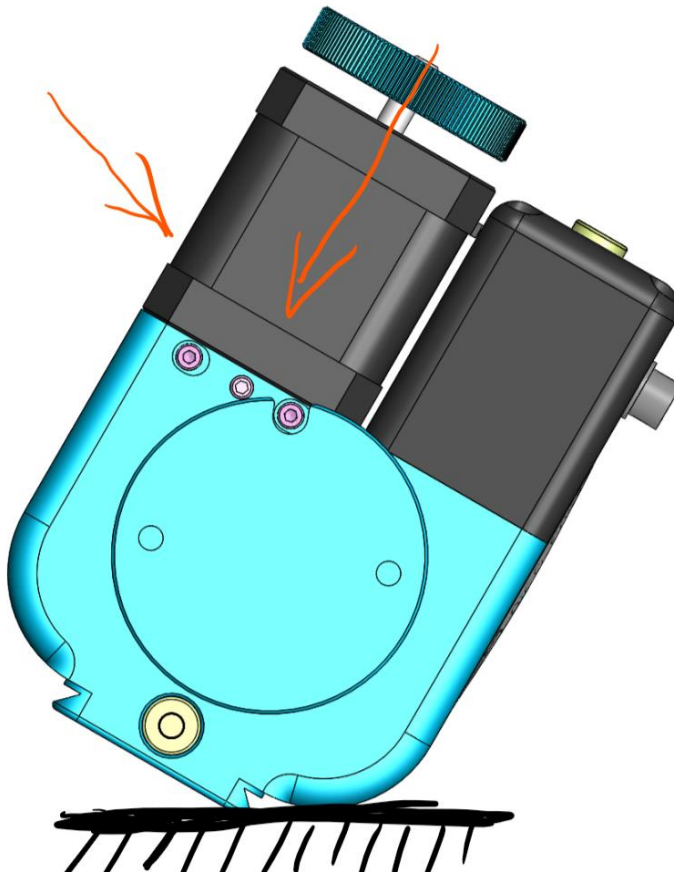

Fig. 4
6. Tip: Place the Nic-O-Tilt on a suitable surface as shown and press it with one hand on the motor (Fig. 4).